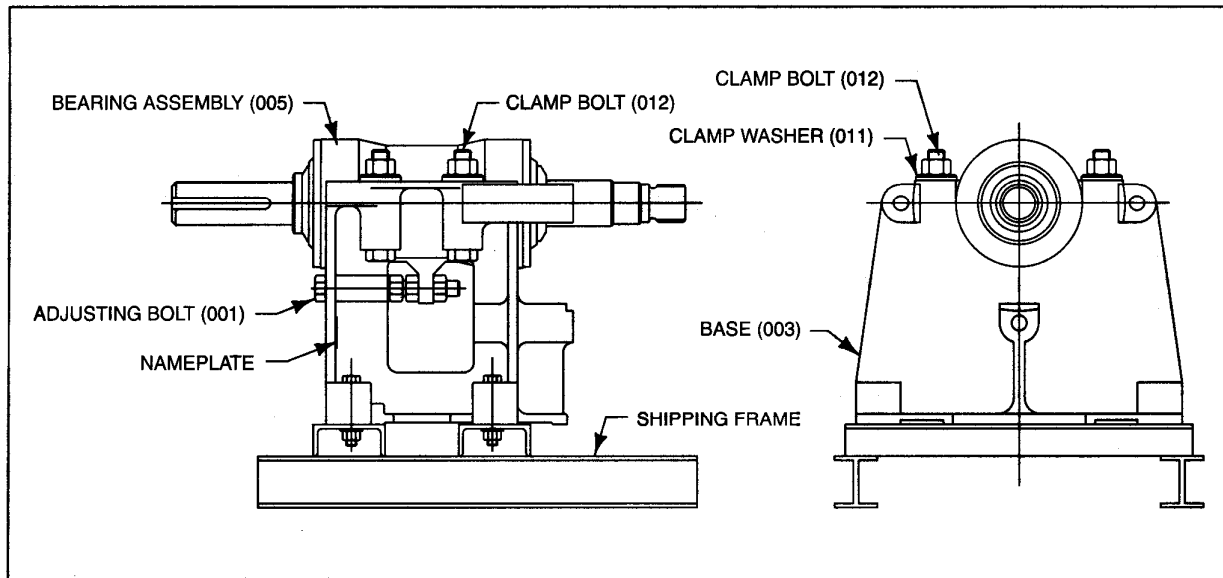

Figure 4-1 • Fitting Bearing Assembly to Base
## FITTING BEARING ASSEMBLY TO BASE (Figure 4-1)
6. Fit two pieces of timber to the underside of the base or use the appropriate shipping frame as shown in Figure 4-1 to prevent the pump from tipping forward during assembly of the wet end.